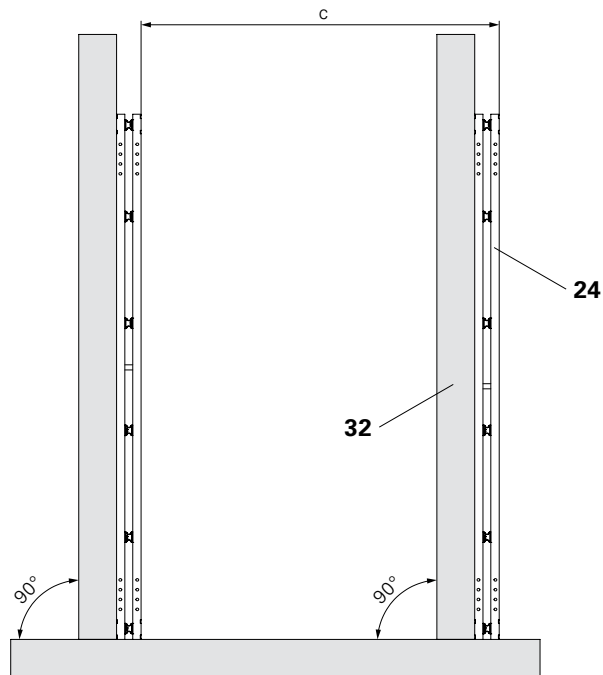

Fig. B5.01
1. Align the Steel Waler SRU (**24**) along the limit stop plank (**32**). The slotted holes in the Steel Waler SRU are at the top. (Fig. B5.01)